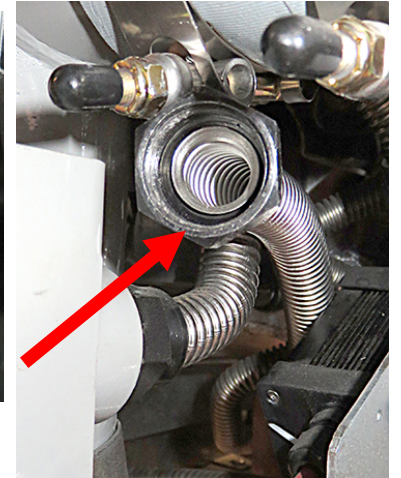

Figure 16
19. Route the flexline from the front of the fryer, to the right of the drain dump tube, down towards the flexline adaptor, installed in step 10 (see Figure 16).